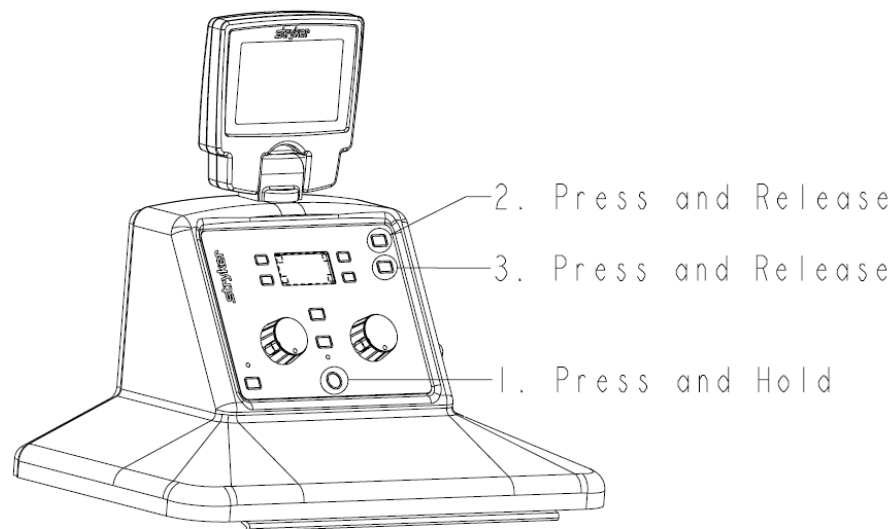

Figure 8: Accessing the Technician Menu
23. To access the technician menu from the system settings menu, hold down the Vacuum System power button, then press and release the IV Pole UP button, and finally press and release the IV Pole DOWN button. (see figure 8)